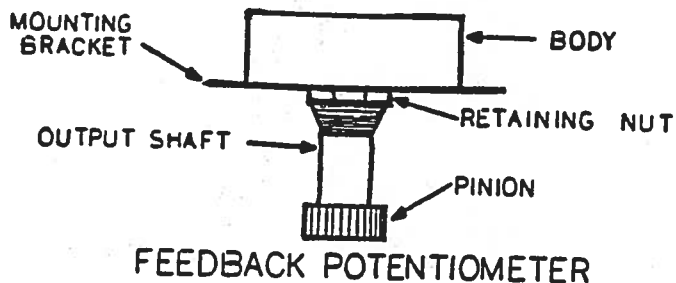
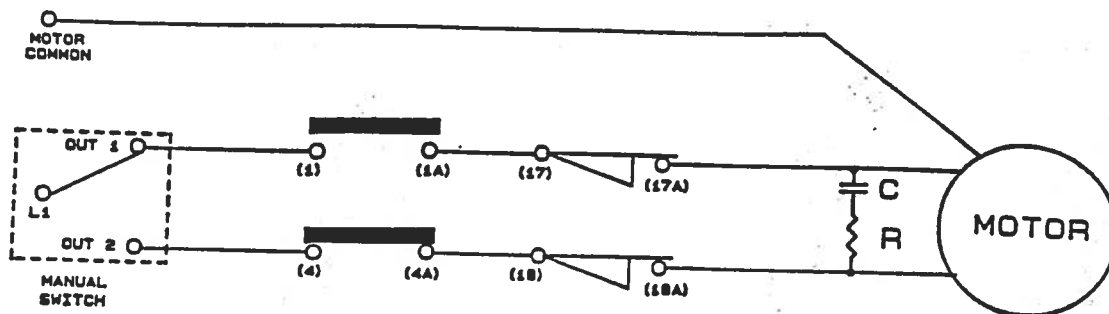
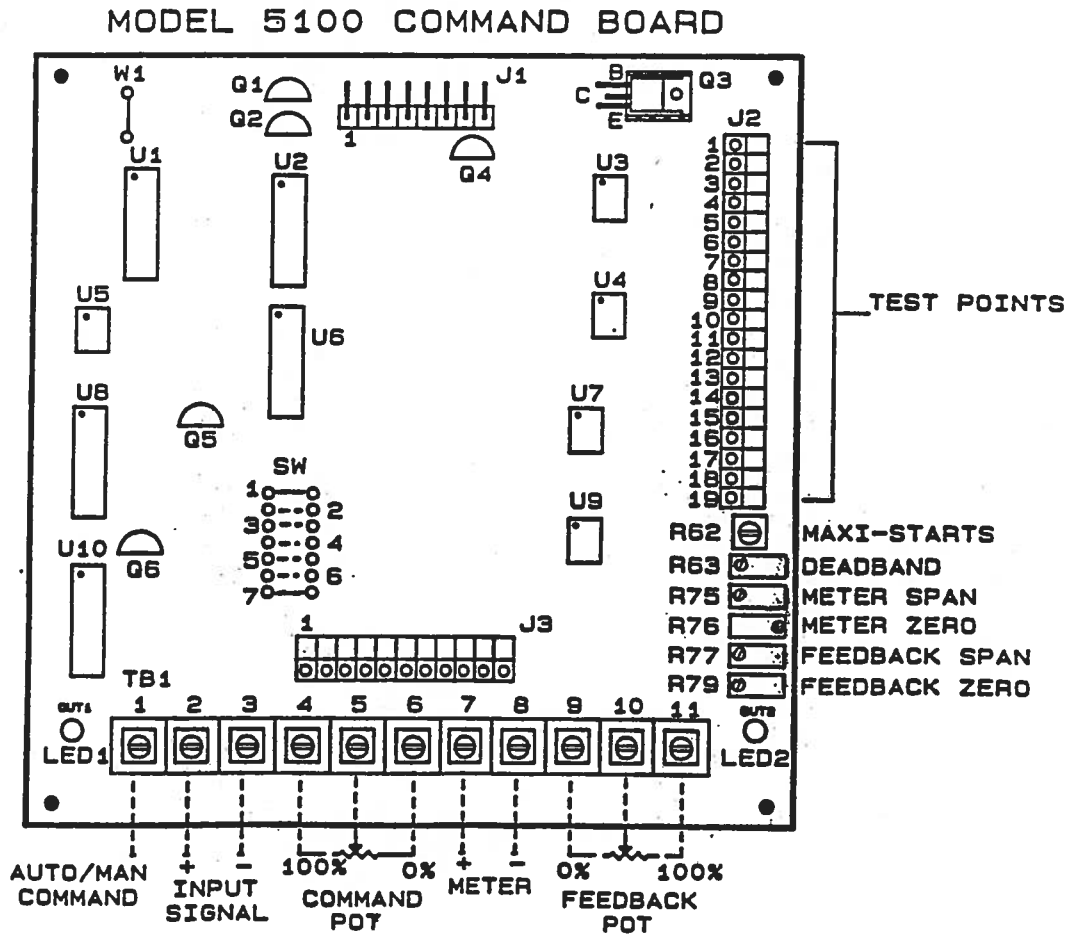
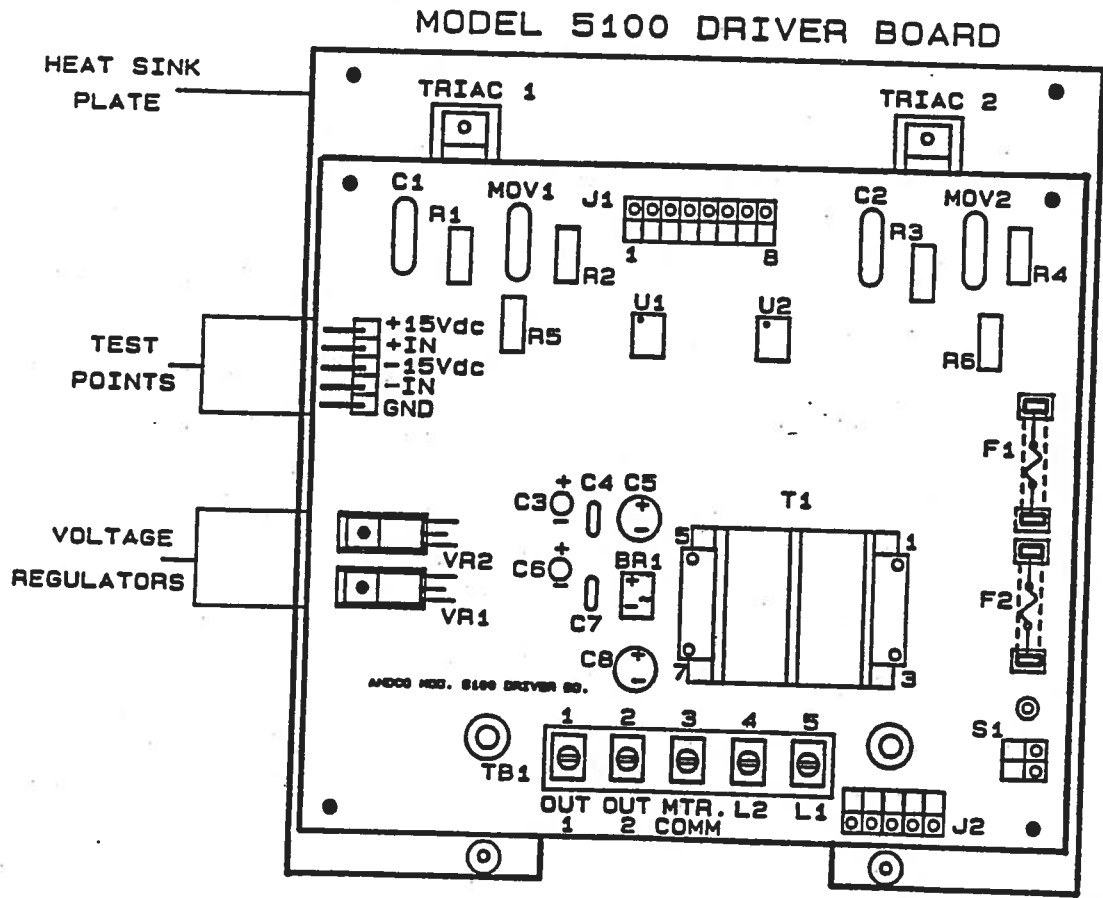

Fig. 1a
Fig.2
Fig.3
Fig.4
4. Verify that the "OUT 2" wire is connected to the MINIMUM command signal limit switch and the "OUT 1" wire is connected to the MAXIMUM command signal limit switch (fig. 4).
5. Verify that the actuator feedback potentiometer wires are properly connected (fig. 3). Check for 20 Ohms of resistance between R1 (standard) or R2 (see the specific application) and R3 at the MINIMUM command signal limit switch.
1. Turn the power off. Loosen the retaining nut on the actuator feedback potentiometer mounting bracket until the potentiometer can be freely rotated to the desired position (fig. 1a).
2. Manually run the actuator, bypassing the Model 5100 controller; run the actuator in the direction of the MINIMUM command signal limit switch (see II-3), taking notice of the direction of the feedback potentiometer's output shaft rotation (fig. 1a). To electrically run the actuator, bypassing the Model 5100 controller, first make sure the power is off; disconnect the "L1", "OUT 1" and "OUT 2" wires on terminal block TB1 of the Model 5100 driver board (fig. 4). Connect the wires according to the schematic diagram (fig. 2). Turn the power on and run the actuator until it is stopped by the MINIMUM command signal limit switch. See ch. II-3.
3. Turn off the power. Disconnect the feedback potentiometer wires on TB1-9 (R1) and TB1-10 (R3) of the Model 5100 command board (fig. 3). Set the multimeter to measure 1000 Ohms. Connect the multimeter leads to the wires from TB1-9 (R1) and TB1-10 (R3).
- A. If the feedback potentiometer output shaft pinion rotated clockwise while the actuator was moving to the MINIMUM command signal limit switch (see II-3), adjust the feedback potentiometer resistive output to approximately 20 Ohms, by turning the body of the feedback potentiometer counterclockwise. Tighten the retaining nut to secure the feedback potentiometer (fig. 1a).
- B. If the feedback potentiometer output shaft pinion rotated counterclockwise while the actuator was moving to the MINIMUM command signal limit switch (see II-3), adjust the feedback potentiometer resistive output to approximately 20 Ohms, by turning the body of the feedback potentiometer clockwise. Tighten the retaining nut to secure the feedback potentiometer (fig. 1a).
6. Connect the "L1", "OUT 1" and "OUT 2" wires on terminal block TB1 of the Model 5100 driver board (fig. 4). See II-4. Connect the feedback potentiometer wires from terminal TB1-9 (R1) and TB1-10 (R3) of the Model 5100 command board (fig. 3). Turn the power on.
1. Turn the power off. Disconnect the "OUT 1" and "OUT 2" wires on terminal block TB1 of the Model 5100 driver board (fig. 4). Do not touch the wires to any metallic parts. Turn the power on.
3. Locate connector J2 on the the Model 5100 command board (fig.3); J2 is a 19 pin connector used for test points. With terminal TB1-3 as common, check for:
4. Turn the power off. Reconnect the "OUT 1" and "OUT 2" wires on terminal block TB1 of the Model 5100 driver board (fig. 4). See II-4. Turn the power on.
2. Verify that the actuator feedback potentiometer is properly connected to terminal block TB1 of the command board (fig. 3). See II-5.
3. Disconnect the "OUT 1" and "OUT 2" wires on terminal block TB1 of the driver board (fig. 4). Be very careful not to touch the wires to any metallic parts and turn the power on.
Check for the proper selection of the mode jumpers at location "SW" (fig. 3). Please note, the standard locations are 1 & 7 for 4-20 mAdc command signal and the fail in place option.
Locate connector J2 on the Model 5100 command board legend diagram (fig.3); J2 is a 19 pin connector used for test points. With TB1-3 as common, adjust the Dead Band potentiometer (R63) until the voltage at test point 12 remains constant between 20 and 110 mVdc.
9. Turn the power off. Reconnect the "OUT 1" and "OUT 2" wires on terminal block TB1 of the Model 5100 driver board (fig. 4). See II-4. Turn the power on.
Apply 20 mAdc input signal. The actuator shall run until the MAXIMUM command signal limit switch is tripped, stopping the actuator. If the actuator stops before the limit switch trips, electrically or manually or run the actuator bypassing the Model 5100 controller until the MAXIMUM command signal limit switch is tripped. See III-2. Turn the power off and disconnect the "OUT 1" and "OUT 2" wires on terminal block TB1 of the Model 5100 driver board (fig. 4); do not touch the wires to any metallic parts. Turn the power on.
3. Turn off the power. Reconnect the "OUT 1" and "OUT 2" wires on terminal block TB1 of the Model 5100 driver board (fig. 4). See II-4. Turn the power on. Recheck the SPAN adjustment.
Apply 4 mAdc input signal. The actuator shall run until the MINIMUM command signal limit switch is tripped, stopping the actuator. If the actuator stops before the limit switch trips, electrically or manually run the actuator bypassing the Model 5100 until the MINIMUM command signal limit switch is tripped. See III-2. Turn the power off and disconnect the "OUT 1" and "OUT 2" wires on terminal block TB1 of the Model 5100 driver board (fig. 4); do not touch the wires to any metallic parts. Turn the power on.
5. Turn off the power. Reconnect the "OUT 1" and "OUT 2" wires on terminal block TB1 of the driver board (fig. 4). See II-4. Turn the power on. Recheck the ZERO adjustment.
Turn the power off. Set the multimeter to measure 20 mAdc. Disconnect the wires on terminals TB1-7 (+) and TB1-8 (-) of the Model 5100 command board (fig. 3). Connect the multimeter's positive lead to TB1-7 (+) and the negative lead to TB1-8 (-). Turn the power on.
8. Turn the power off. Disconnect the multimeter leads on TB1-7 and TB1-8. Reconnect the meter wires on TB1-7 and TB1-8 (fig. 3). Turn the power on and check the meter calibration.
Check manual operation of the model 5100 Integral Controller by connecting a SPDT switch or a jumper to command board terminals 1 and 2 (fig. 3). Also install a 1000 Ohms command potentiometer on command board terminals 4 (100%), 5 (wiper) and 6 (0%). Please note when contact is made between terminals 1 and 3, the command signal input is disabled and the command potentiometer takes the control.
Check auto operation of the Model 5100 Remote controller by setting the mode switch, located on the front panel, to the AUTO mode and applying a 4-20 mA_{dc} input signal to command board terminals 2 (+) and 3 (-) (fig. 3). Use a multimeter to monitor the input signal.
Check Auto operation of the Model 5100 Integral controller by applying a 4-20 mA_{dc} to command board terminals 2 (+) and 3 (-) (fig. 3). A multimeter must be used to monitor the input signal. Please note, for AUTO operation, no contact is made between terminals 1 and 3.
2. Check the Meter output of the Model 5100 Integral Controller by connecting an electronic multimeter to command board terminals 7 and 8 (fig. 3). Set the multimeter to measure 20 mA_{dc}. Connect the mutimeter's positive lead to terminal 7 and the negative lead to terminal 8 (fig. 3). Please note, for AUTO operation, no contact is made between terminals 1 and 3.